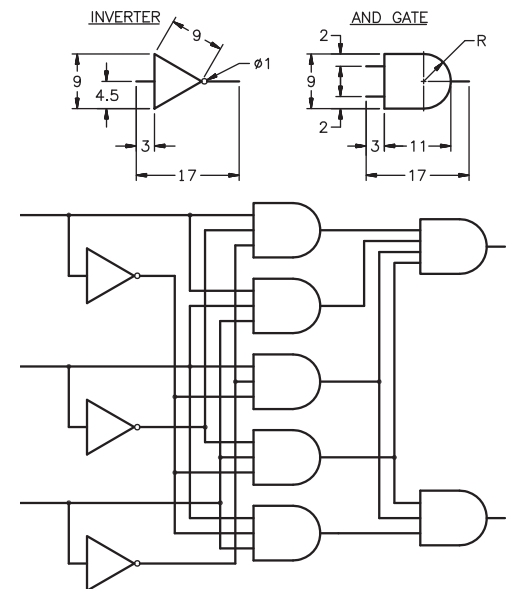

Fig. 35-5
3. The logic circuit for an adder is shown in Fig. 35-5. Draw the circuit by first constructing the inverter and the AND gate as blocks. Use **DONUT** for the circuit connections.